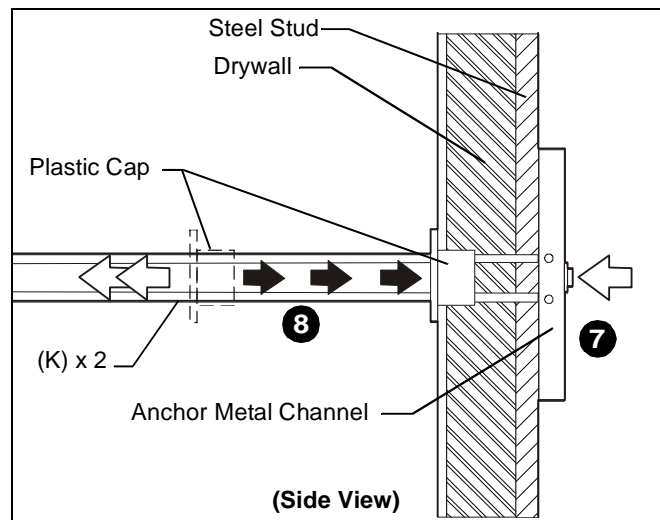

Figure 10
7. Holding plastic straps on anchor (K), pull anchor away from wall until channel rests flush behind wall making sure anchor channel is positioned vertically on stud. (See Figure 10)
8. Slide plastic cap on anchor (K) towards wall until flange of cap is flush with wall. (See Figure 10)